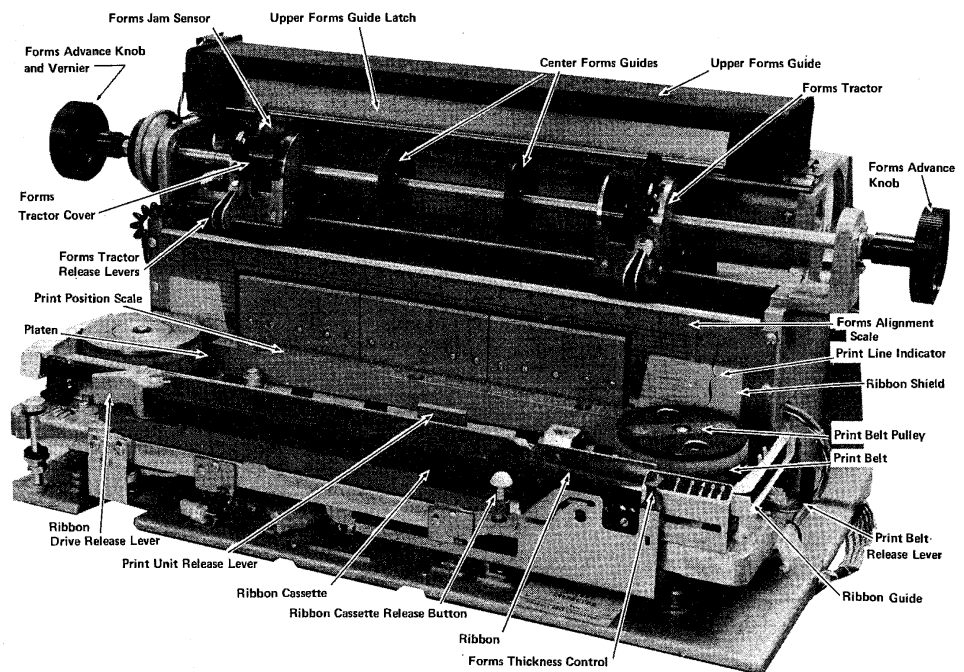

Figure 5-1. Printer Locations
Figure 5-1 illustrates the printer controls used in the operation of the printer.
- 2 Set the forms thickness control (Figure 5-1) to the number of parts in the form being used.
- 4 Position the form in the forms chute so that the form is aligned to the same position on both the rear form alignment scale, shown in Figure 5-5 and the front form alignment scale, shown in Figure 5-1. Refer to Figure 5-6 if you need to move the tractor pins to align the forms.
- 5 Use the forms advance knob, shown in Figure 5-1, to advance the forms to one line above the first print line indicator (also shown on Figure 5-1).